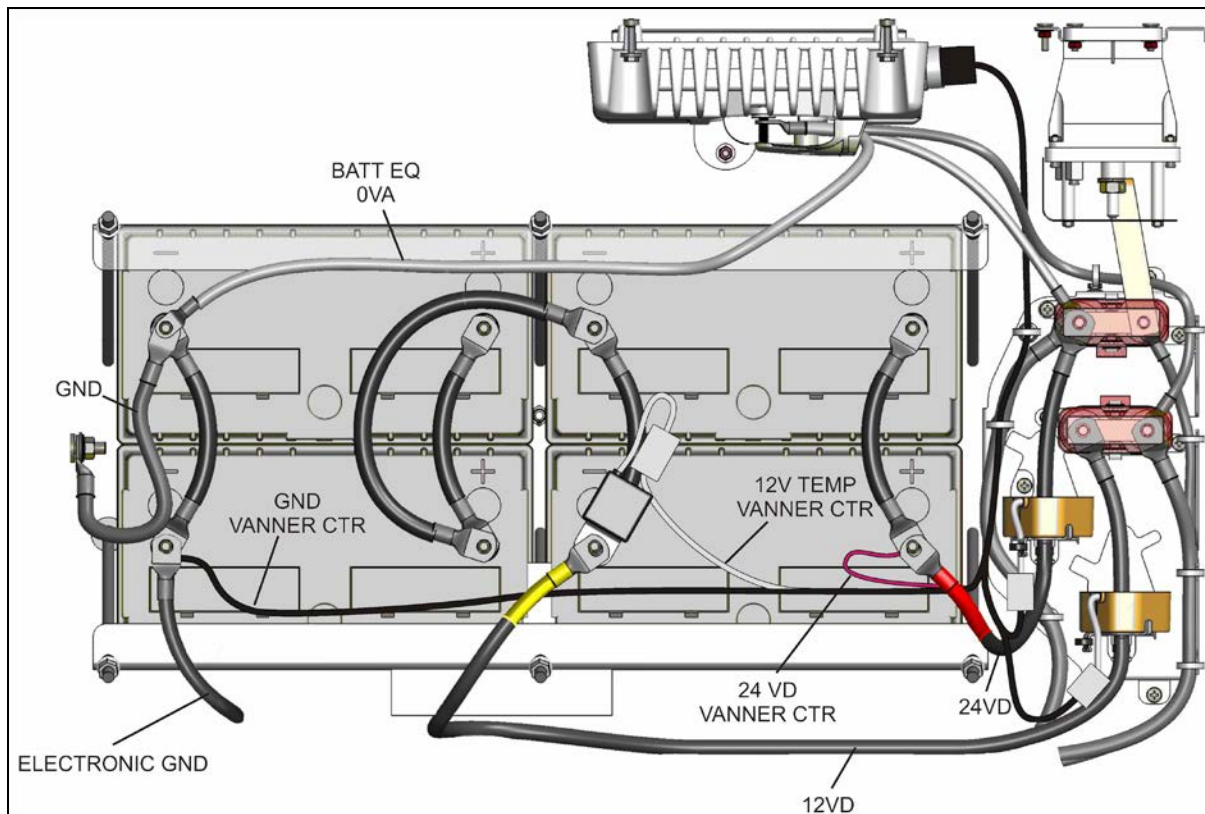

FIGURE 28: X3 SERIES AGM BATTERY CONNECTIONS
If your vehicle is equipped with PRIME energy management system, it is provided with four (4) Absorbed Glass Mat (AGM) 12-volt batteries connected in series-parallel (**FIGURE 28**).